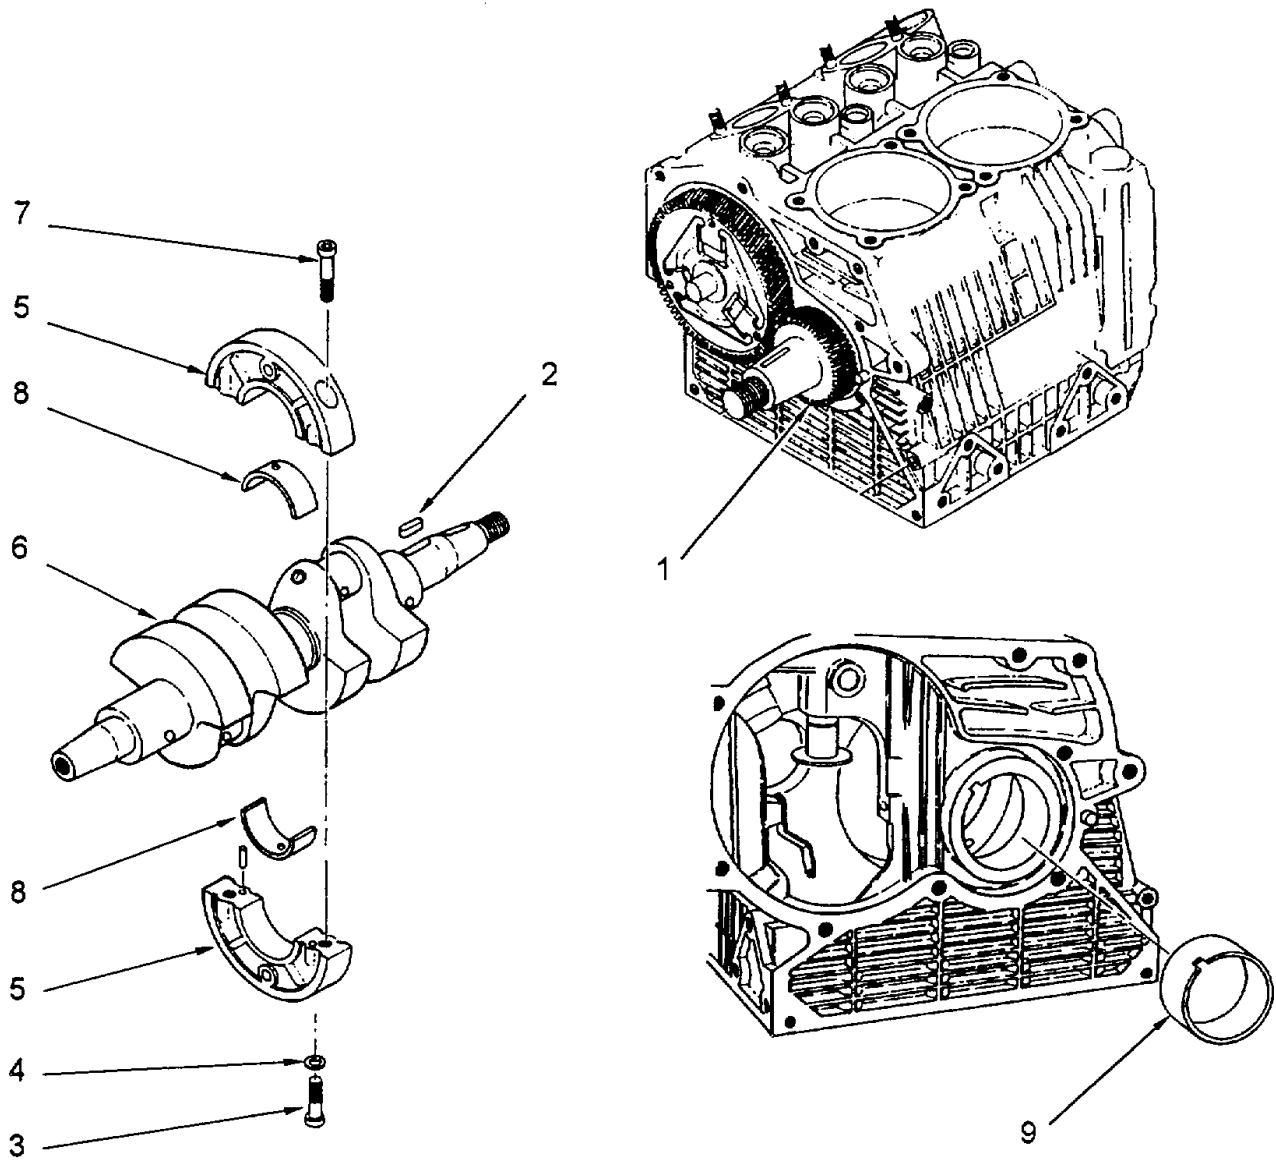

Figure 6-19. Crankshaft Gear, Crankshaft and Bearings Removal
6.3.18 Remove Crankshaft Gear, Crankshaft and Bearings. (Refer to figure 6-19.)